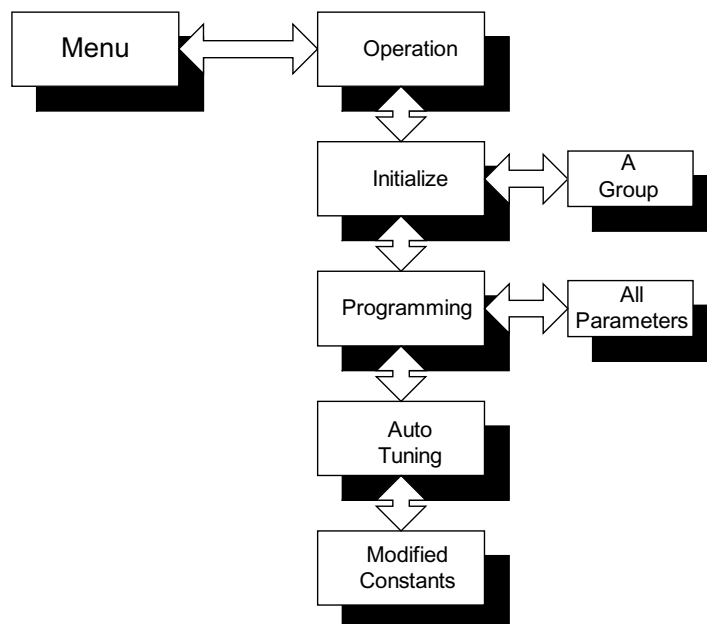

Fig. 1 VG5 Parameter Tree
- Auto-Tuning of the Motor - The inverter automatically sets all the parameters associated with the motor characteristics. The autotune will increase the performance of the inverter by increasing speed regulation and torque at low speed range. To access the auto-tune function refer to the parameter tree, Fig. 1 and then input the required info from the motor's nameplate (Motor rated voltage, FLA, Frequency, RPM and Number of Poles). The auto-tune procedure will take approximately 2 minutes to complete and motor will run to 80% speed.